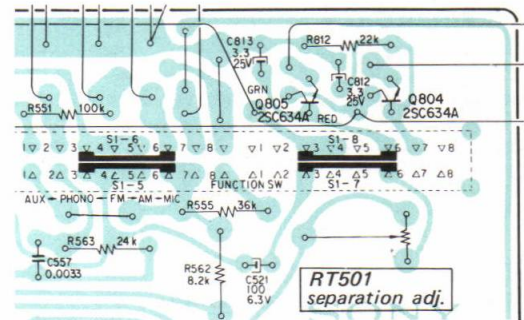

Fig. 3-9. Adjusting parts location
4. The output-level to residual-level ratio represents the separation. Adjust separation control RT501 (see Fig. 3-9) on the control board for minimum residual level. Check the right channel for separation. Usually, about an 8 to 9 dB difference in channel separation exists. Readjust RT501 for